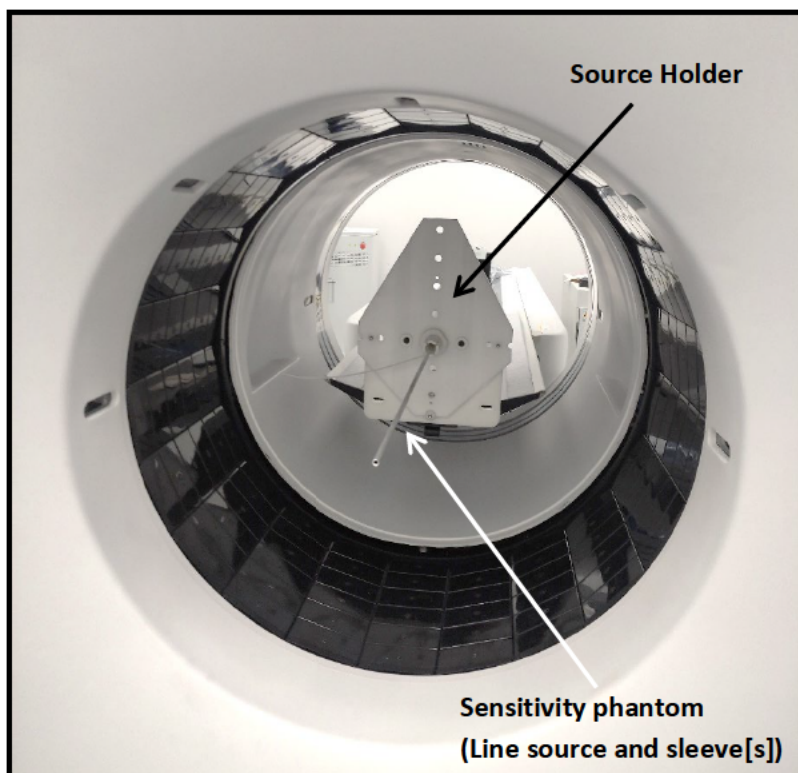

Figure 3.4: Measurement setup.
28. Mount the source holder on the cradle, thread the line source through the smallest diameter aluminum sleeve and insert the sleeve into the holder, as presented in Figure 3.4.